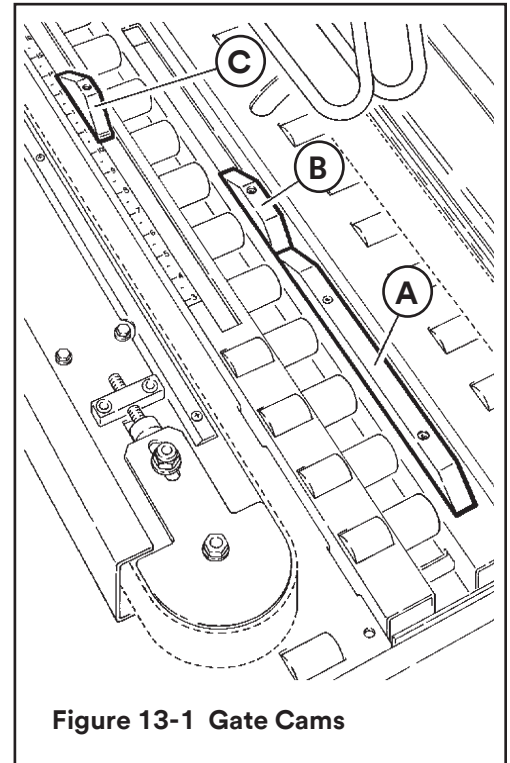

Figure 13-1 Gate Cams
13.1 Gate Operation (Figure 13-1)